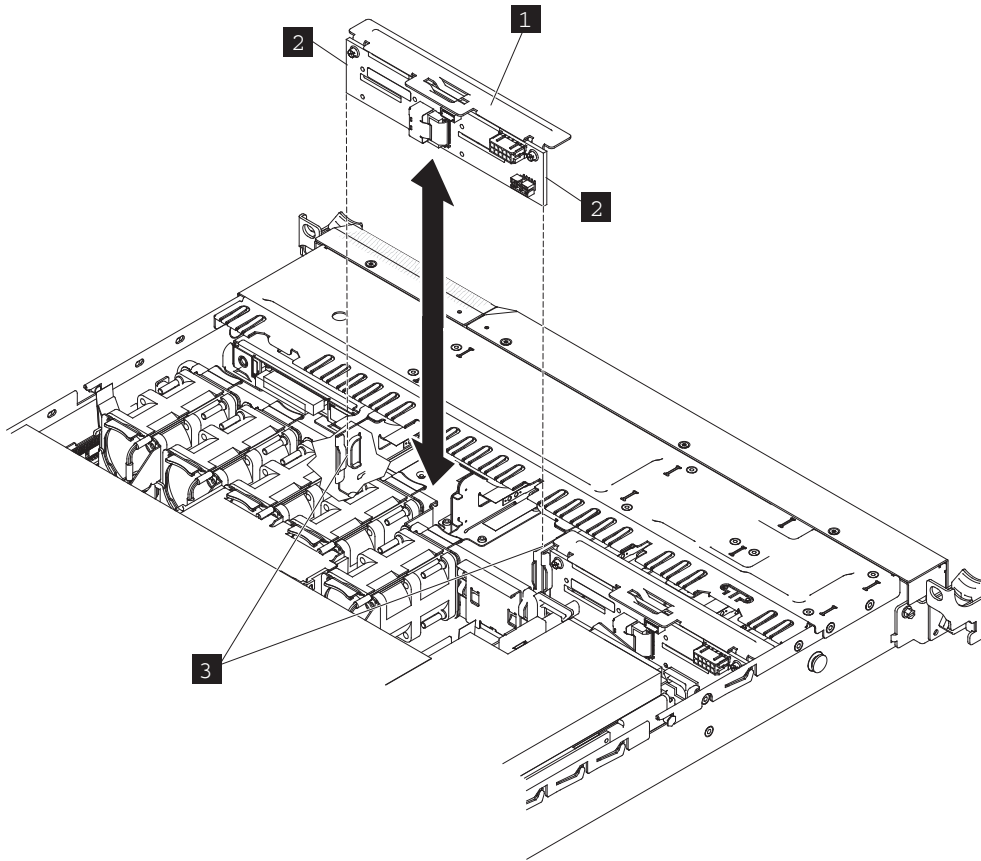
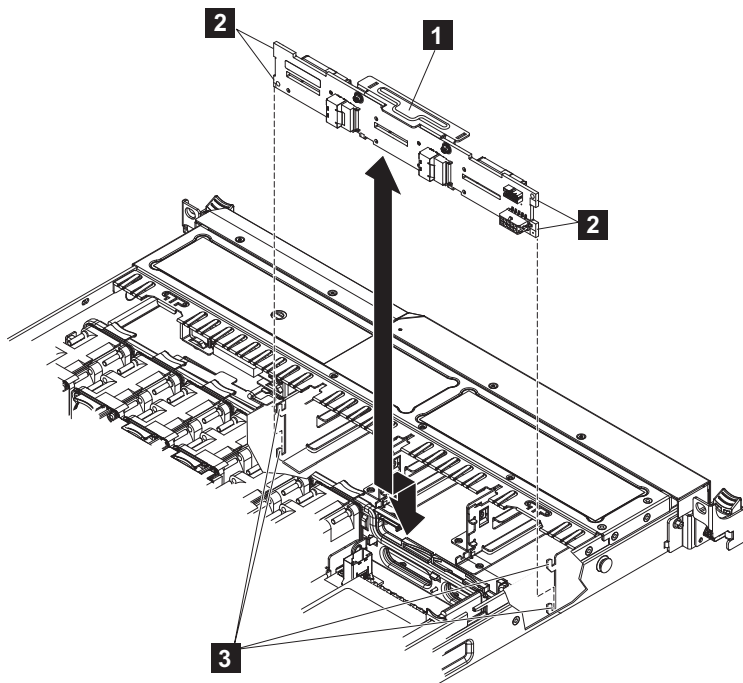

Figure 143. The 2145-CG8 boot-disk backplane
Figure 144. The SAN Volume Controller 2145-CF8 disk backplane
1. Align the tabs (**2** on Figure 143 on page 173 and Figure 144 on page 174) on the disk-drive backplane with the slots on the backplane bracket (**3** on Figure 143 on page 173 and Figure 144 on page 174).